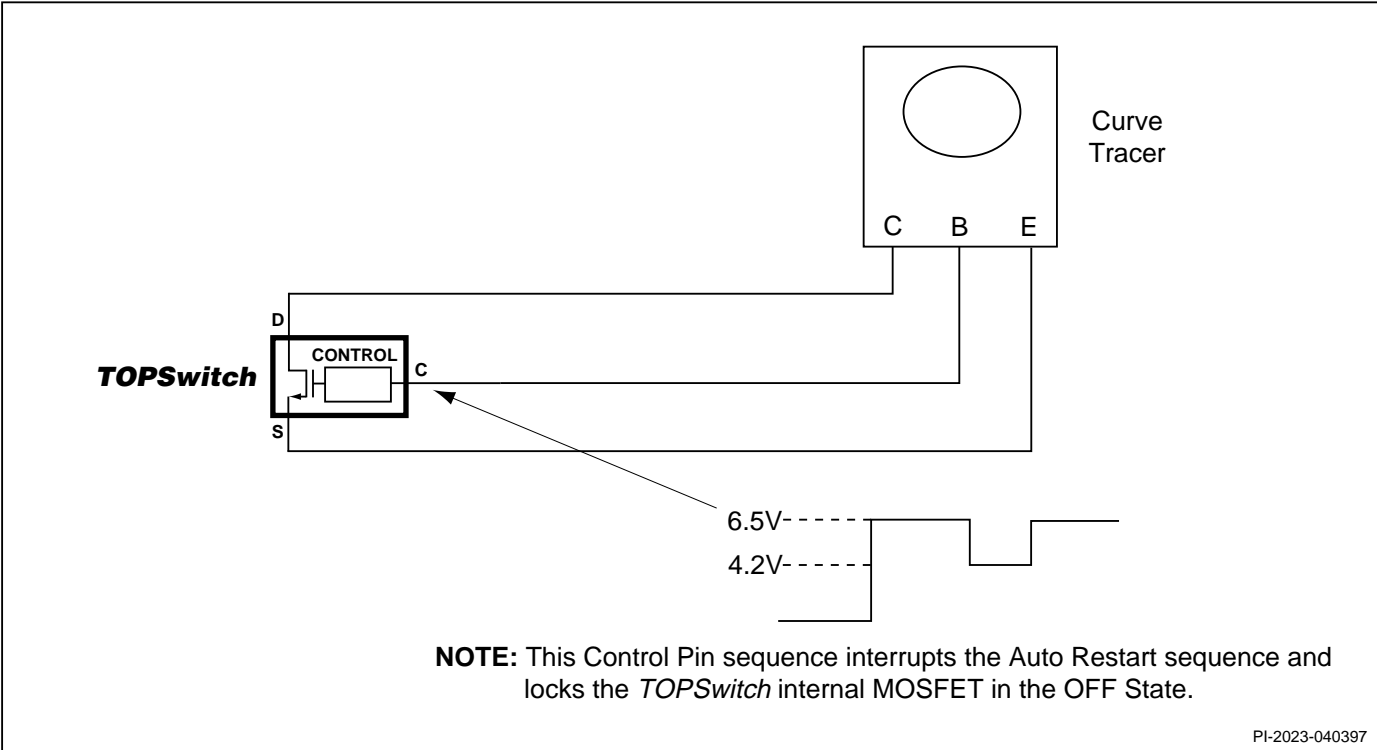

Figure 14. Breakdown and Leakage Measurement Test Circuit.
- The breakdown & leakage measurements can be accomplished as shown in Figure 14 by using the following sequence: